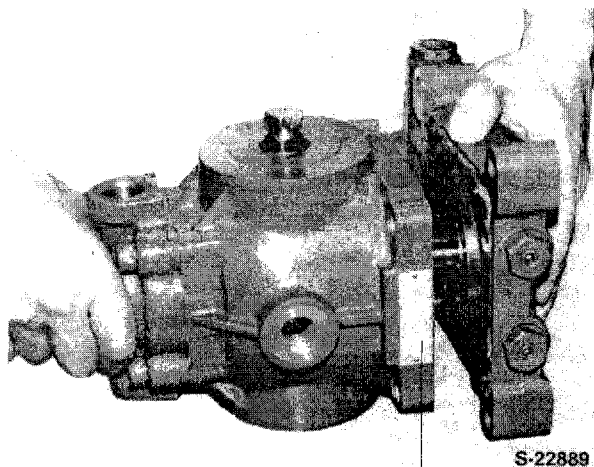

Figure 71
- Install the pump housing assembly to the port block being sure to align the relief valve spring and poppet, Figure 71.